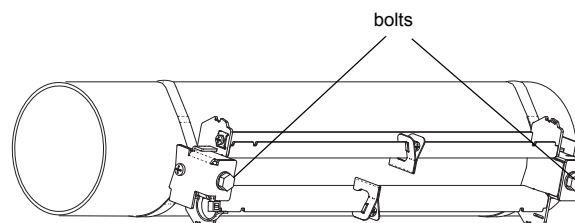

Fig. 9.38: Rail on the pipe
- Use the screws to fix the rail to the tension strap clamps (see Fig. 9.38).